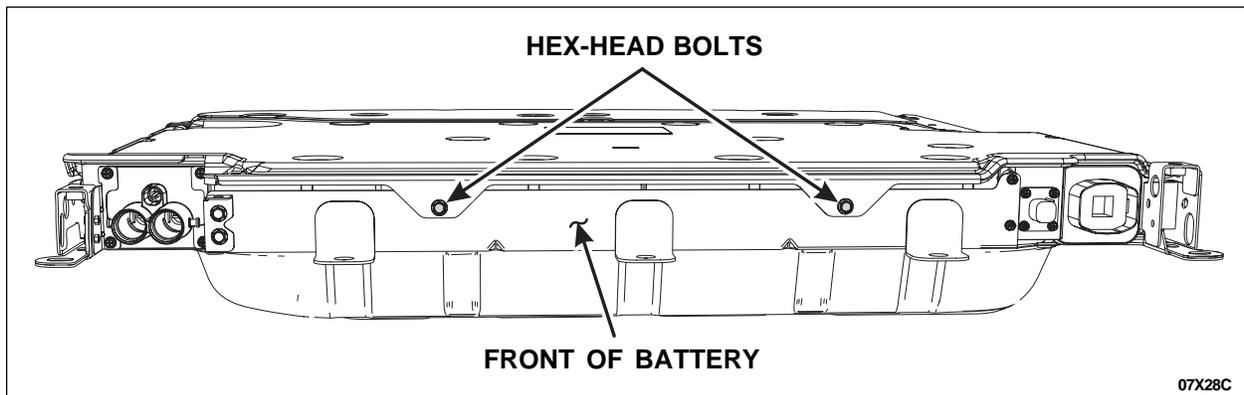

FIGURE 15
23. Install and finger-tighten the 2 Hex-head bolts securing the front side of the front battery cover. Do not tighten the bolts at this time. See Figure 15.